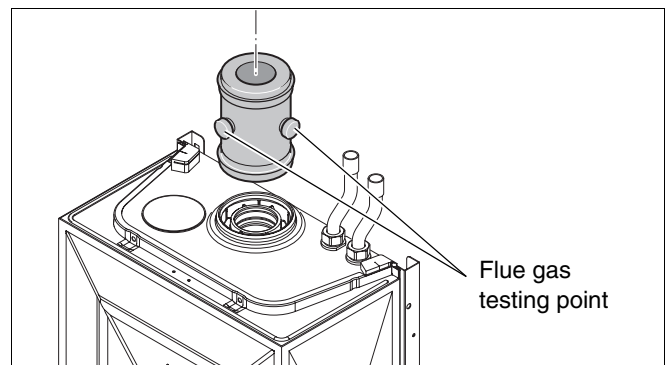

Fig. 8 Vertical flue connection
- Fit the vertical flue gas duct (fig. 8) onto the appliance flue connector.